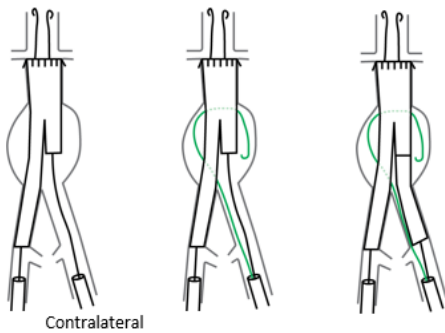
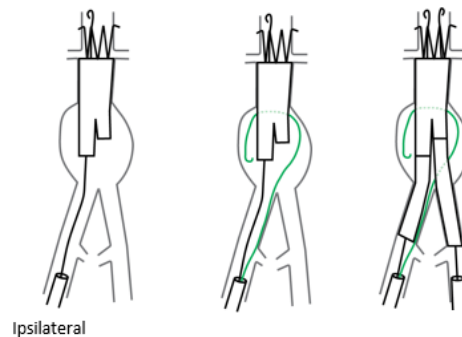

Figure 4: Contralateral Access Option
Figure 5: Ipsilateral Access Option
IMPEDE-FX RapidFill use requires a guidewire (buddy wire) to be jailed in the AAA sac during endograft deployment. IMPEDE-FX RapidFill may utilize one of the bilateral femoral artery access sites for the endograft but IMPEDE-FX RapidFill access via the ipsilateral (endograft main body access site) or contralateral (limb body access site) approach has different requirements, which should be taken into consideration prior to starting the EVAR procedure with the endograft. Refer to **Figure 4** and **Figure 5** for a visual representation of each approach.
**NOTE:** Position the guiding sheath tip at a location such that it is furthest from the aneurysm access point (i.e., past the endograft limb). If possible, depending on patient anatomy and user preference, advance the guiding sheath around the contour of the sac (see Figures 4 and 5).